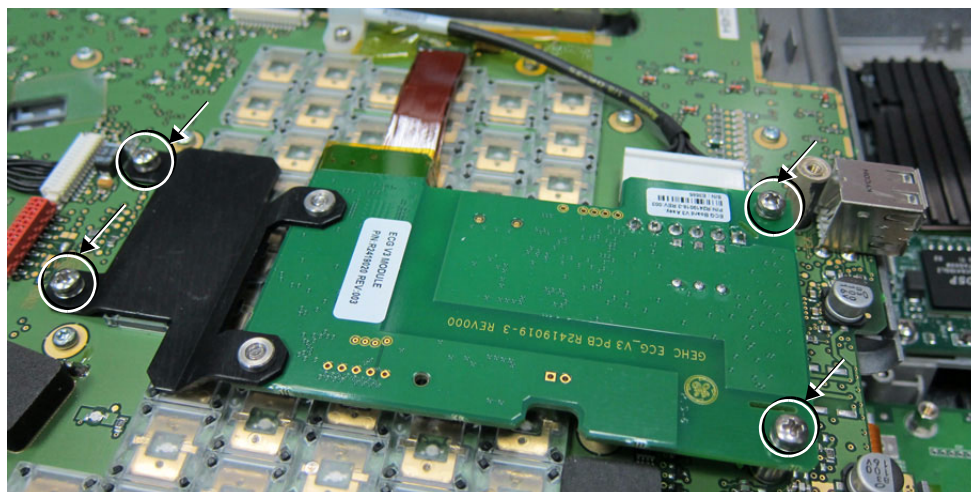

Figure 8-29 ECG Module Assembly Removal
- 4) Return and fasten the four hex nuts (two on either side of the bracket) to secure the ECG/Respiratory Module assembly to the base of the Control Panel (refer to Figure 8-29 on page 8-23).